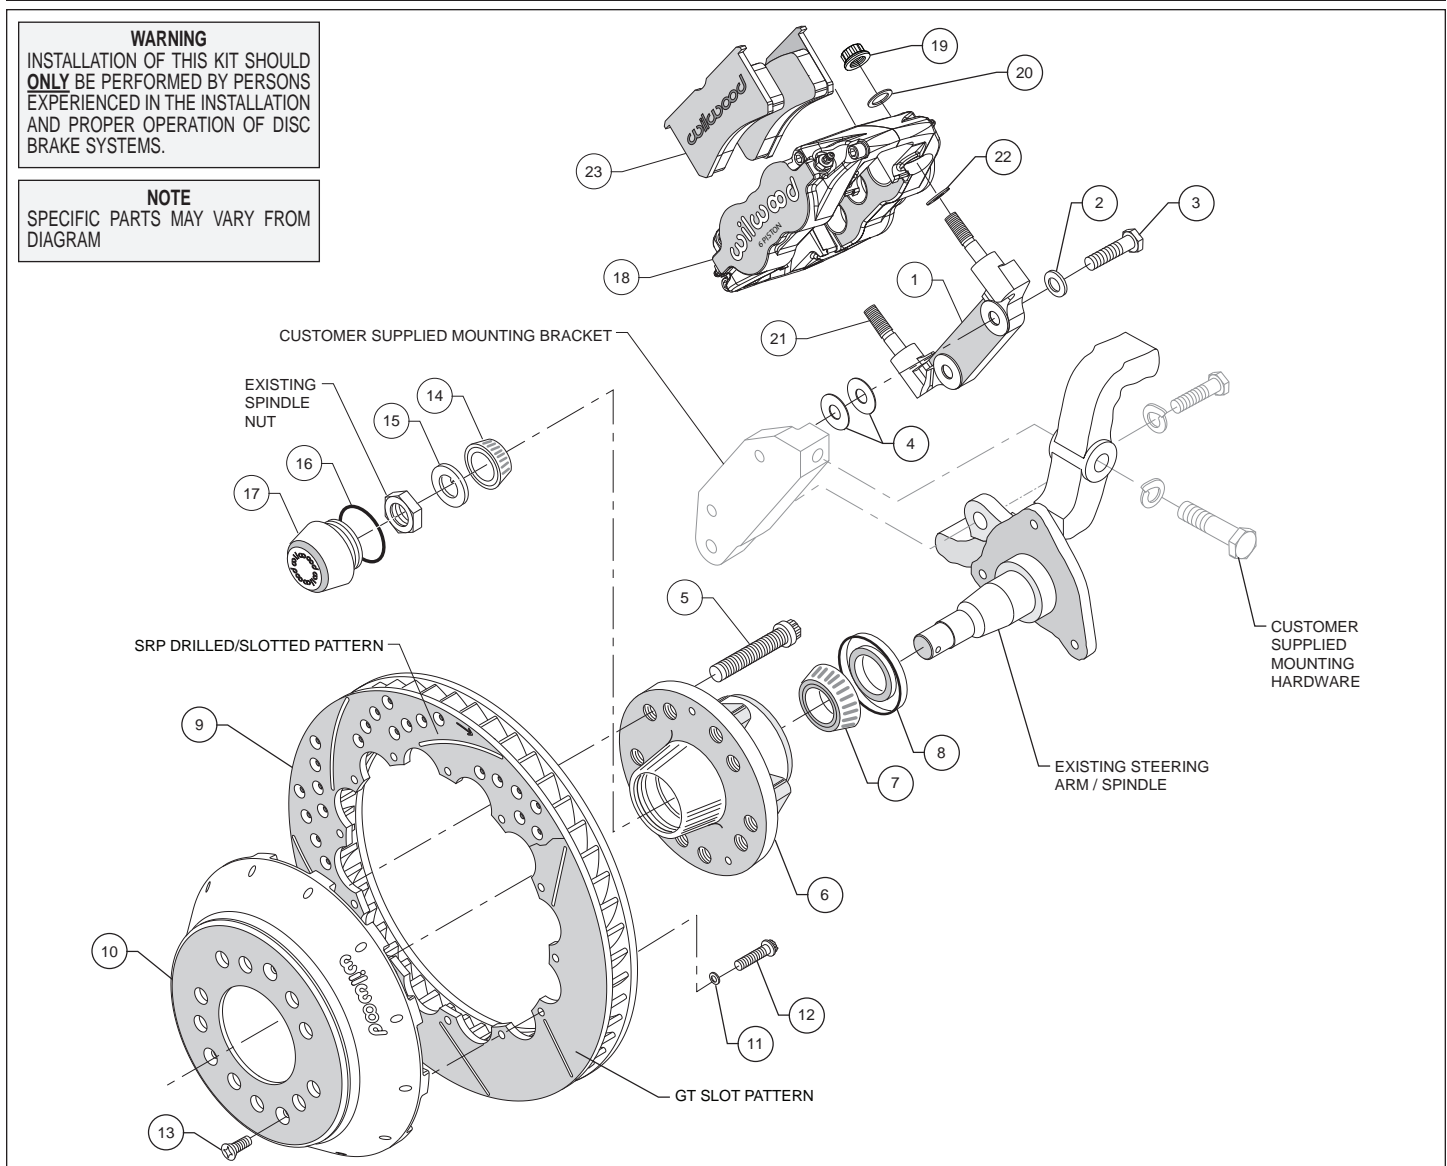
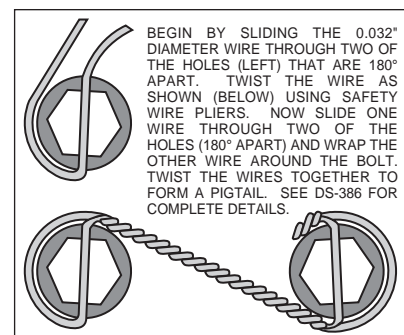

Figure 1. Typical Installation Configuration
Figure 3. Safety Wire Diagram
**Assembly Instructions** (numbers in parenthesis refer to the parts list and Figure 1 on the preceding pages):
- The caliper mount bracket assembly (1) should initially be installed with clean, dry threads on the mounting bolts. Orient the bracket as shown in Figure 1 and install using bolts (3) and washers (2), Figure 1. Initially place two .063" thick shims (4), on each bolt between the bracket and spindle mounted bracket. Temporarily tighten the mounting bolts. **NOTE: The bracket must fit squarely against the spindle mount bracket.** Inspect for interference from casting irregularities, machining ridges, burrs, etc. Later, after the caliper alignment has been checked, the mount bolts will be secured using *Loctite*®.
- Install wheel studs (5) into the hub (6). Torque to 77 ft-lb. **NOTE: There are two five lug patterns in the hub (5 x 4.50 and 5 x 4.75).** Ensure the correct hub stud pattern is being used to fit the wheel application.
- Pack the large inner bearing cone (7) with high temperature disc brake bearing grease (available from your local auto parts store) and install into the backside of the hub (6).
- Install the grease seal (8) by pressing into the backside of the hub (6), flush with the end of the hub.
- Pack the small outer bearing cone (14) with high temperature disc brake bearing grease and install into front of hub (6). Slide the hub assembly (5, 6, 7, 8 and 14) onto the spindle. Secure using spindle washer (15), and OEM spindle nut. Adjust bearings per OEM specifications. Install saved OEM nut lock (if any) and a new cotter pin (not included).
- Screw dust cap (17) into hub (6). Friction created by the o-ring (16) on the dust cap keeps it from unscrewing. **NOTE: The O.D. of the existing OEM spindle washer may be larger than the I.D. of the dust cap not allowing it to seat against the hub face. Therefore, use the spindle washer (15) supplied with the kit instead of the OEM washer.**
- Orient the rotor (9) and the hat (10) as shown in Figure 1. Attach rotor to hat using bolts (12) and washers (11). Using an alternating sequence, apply red *Loctite*® 271 to the threads and torque bolts to 155 **in-lb**. For an added measure of security, the bolts may be safety wired using standard 0.032 inch diameter stainless steel safety wire as shown in Figure 3. Please refer to Wilwood's data sheet DS-386 (available at [www.wilwood.com/Pdf/DataSheets/ds386.pdf](http://www.wilwood.com/Pdf/DataSheets/ds386.pdf)) for complete safety wire installation instructions.
- Slide the rotor/hat assembly (9/10) over the studs (5) in the hub (6) taking care to align the small countersunk holes in the hat (10) with the small threaded holes in the hub. Install three flat head socket head screws (13) through the small holes in the hat and torque to 85 **in-lb**.
•**NOTE:** This kit contains distinct right and left hand calipers that must be mounted in a specific direction, as described below. Lubricate the caliper mounting studs (21) with lightweight oil. Initially place two .035" thick shims (22) on each stud as shown in Figure 1. Mount the caliper (18) onto the bracket (1) using lock nuts (19) and washers (20), Figure 1. Ensure that the caliper is mounted so that the largest pistons are at the rotor exit end of the caliper, in relation to the direction of rotor rotation. Temporarily tighten the lock nuts and view the rotor through the top opening of the caliper. The rotor should be centered in the caliper. If not, adjust by adding or subtracting shims (4) between the two brackets. Always use the same amount of shims on each of the two mounting bolts. Once the caliper alignment is correct, remove the bracket mounting bolts one at a time, apply red *Loctite*® 271 to the threads, and torque to 47 ft-lb.